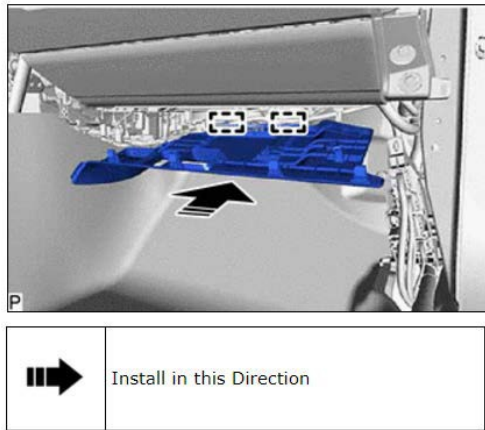

Figure 39
- (c) Engage the 2 guides as shown in Figure 39.